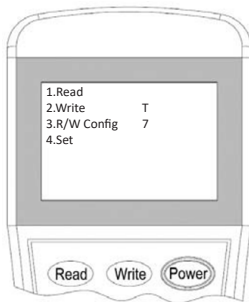
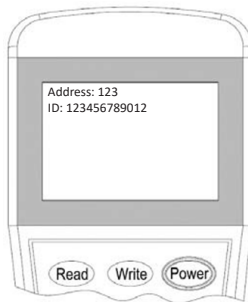

Figure 7
Figure 8
2. Switch-on the programming tool, then press button **“Read”** or **“1”** to enter Read mode (Figure 7). The programming tool will display the configuration after a few seconds (Figure 8).